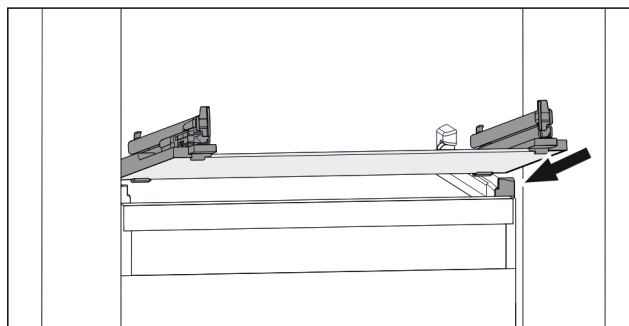

Fig. 156 Example illustration of glass shelf
- ▶ Position glass shelf at an angle behind the stoppers. (see *Fig. 156*)